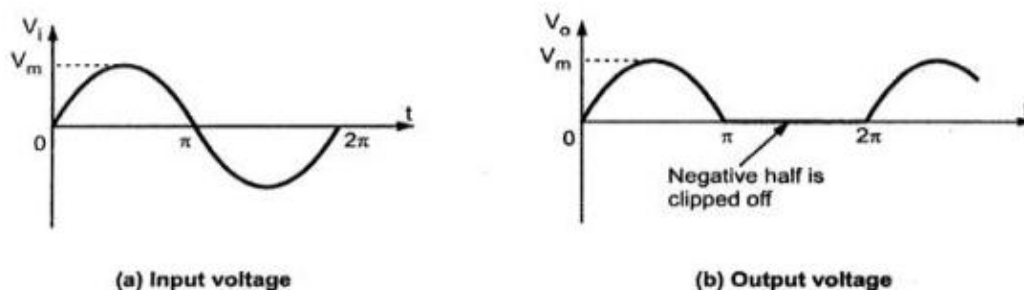

Fig.1.45 Input and Output waveforms
- The input waveform and the corresponding output voltage waveform is shown in the Fig. 1.45.